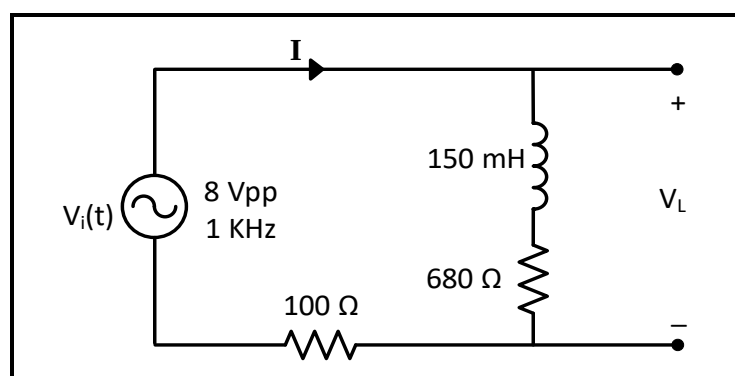
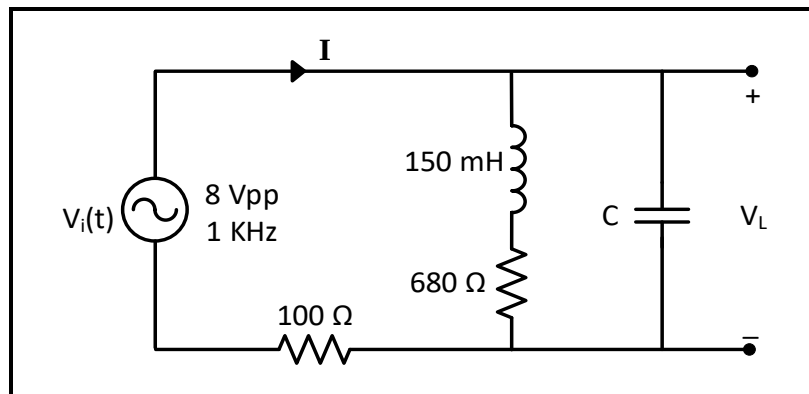

Figure 10.6
Figure 10.7
2. For the circuit of Figure 10.6:
- Use PSPICE to do transient analysis of the circuit in Figure 10.6, show $I_L(t)$ and $V_L(t)$ on one graph, you will need different Y-axis, and measure the power factor (from the time difference between the two waveforms).
1. Connect the circuit of Figure 10.6, set the function generator to produce a sinusoidal voltage at $8V_{pp}$ and $f = 1$ KHz.
1. For the circuit of figure 10.6: connect the capacitor value, that you calculated in your prelab to correct the power factor to unity, in parallel with the load as shown in figure 10.7.